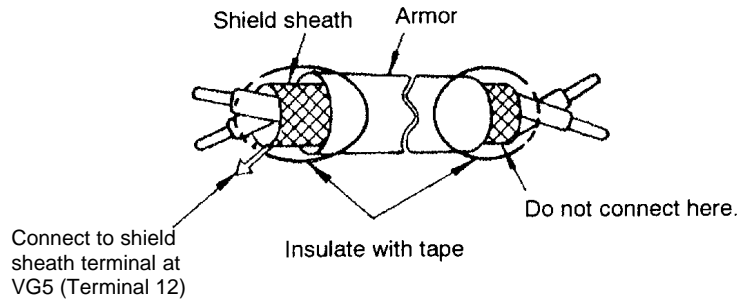

Figure 3.21
- Use twisted-pair or shielded twisted-pair cables for control circuits to prevent operating faults. Process cable ends as shown in *Figure 3.21*.